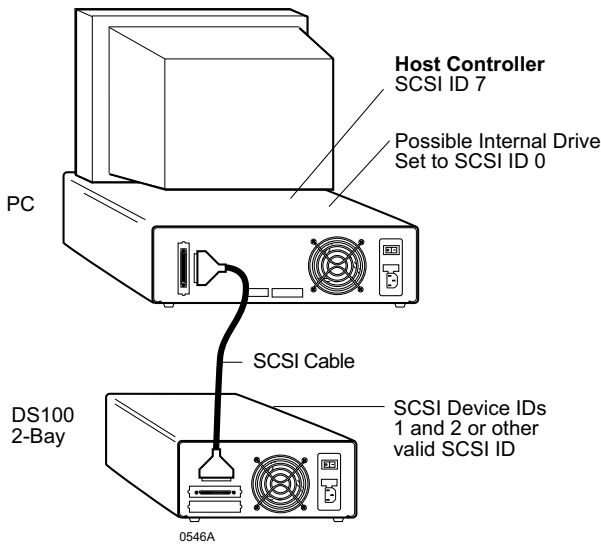

Figure 16: Typical DS100 Connection
The DS100 provides one (1) external rear panel SCSI VHDCI I/O connector designed for a single-host (single-port) connection (Figure 16).